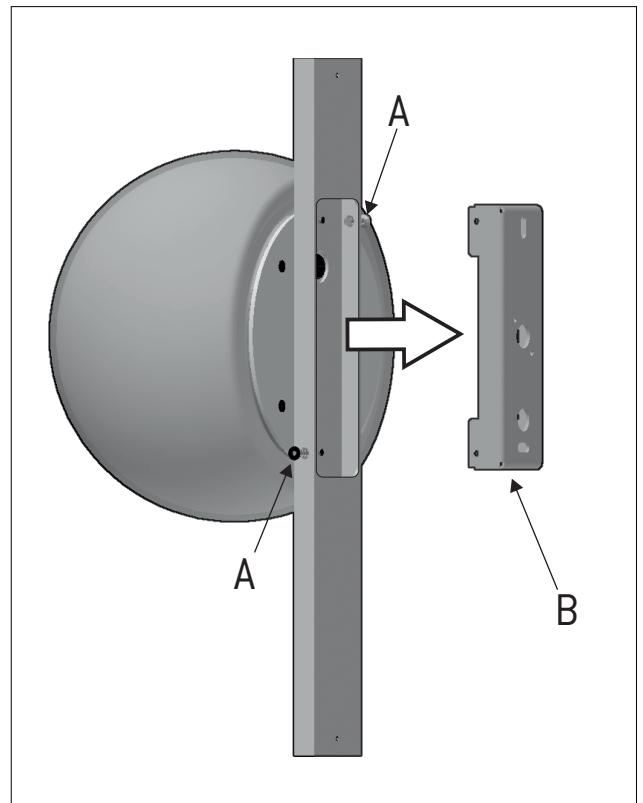

Figure 3
3 - Affix the lamp to the mounting bracket (B). Tighten the lateral screws removed previously back into the canopy (A). Figure 3.